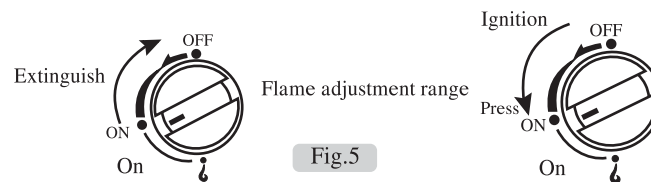

Fig.5
5. Adjust simmer flame between “ON” and “i”. (Fig.5)